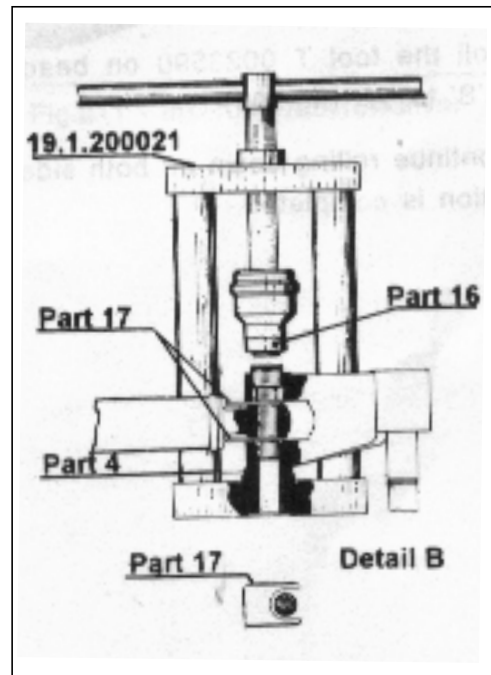

Fig. 207-Location of parts
- (d) Place (2) two spacers part 17 between hub and steering column end.
- (e) Replace part 3 at the top by part 16 and retain part 4 at the bottom. (fig.207)